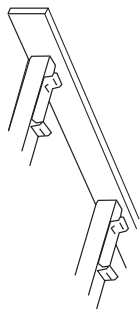

Figure 1.
- 3. Fix the first clip to the purlin nearest to the gutter and, using a string, position and fix a clip to each purlin for the first sheet. (see fig 1)